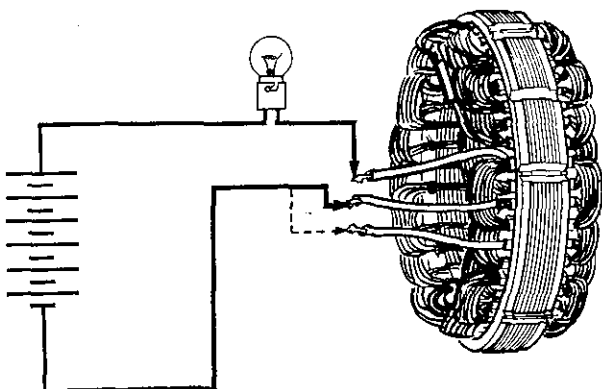

Fig. Nb.17
- (32) Connect a 12-volt battery and a 36-watt test lamp to two of the stator connections. Repeat the test, replacing one of the two stator connections with the third. If the test lamp fails to light in either of the tests, the stator must be renewed (see Fig. Nb.17).
- (33) Using a 110-volt A.C. supply and a 15-watt test lamp, test for insulation between any one of the three stator connections and the stator laminations. If the test lamp lights, the stator must be renewed.